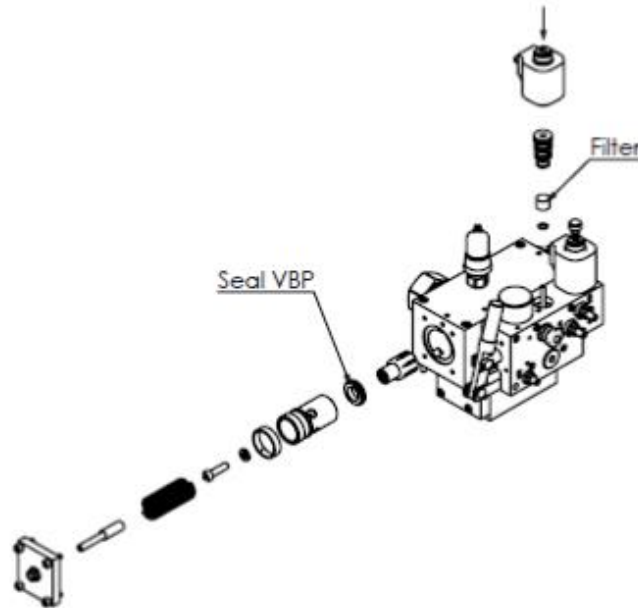

Figure 22 - Replacement of seal VBP and cleaning of the filters
- Replace the VBP seal as shown in Figure 22:
- With a general overhaul or when operation faults occur, clean all filters located on the electro-valves and indicated in the Figure 22.